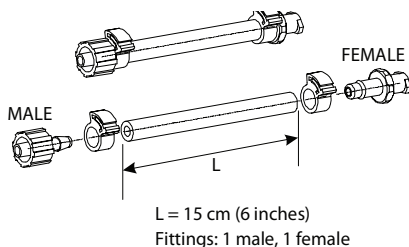

Figure 10: Set-up of retentate tubing, fittings and clamps.
1. Cut silicone (translucent) tubing and install fittings as shown in figure 10.